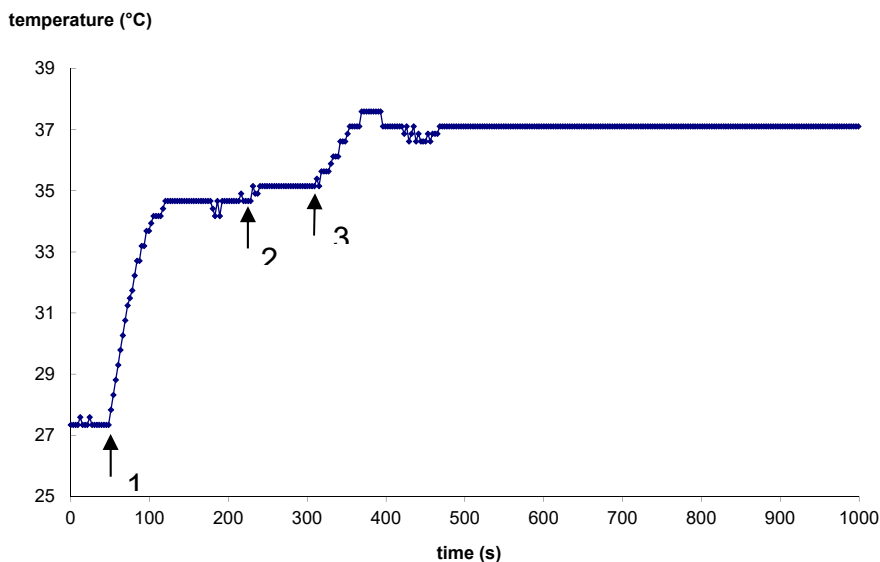

Figure 6: Time course of temperature regulation of the PTC-20, channel A.
- If the desired temperature is not reached first set the GAIN to a slightly higher level and then – if necessary – raise the INTEGRATION (see Figure 6).
In Figure 6 the time course of temperature regulation of the PTC-20 (channel A) is shown. As resistive load a bulb (12V, 21W) was used. The temperature sensor was fixed directly on the bulb and sensor and bulb were wrapped with foam. Starting temperature was 27,3 °C. Starting conditions were: LIMITER set to 0, GAIN set to 0, INTEGRATION off.